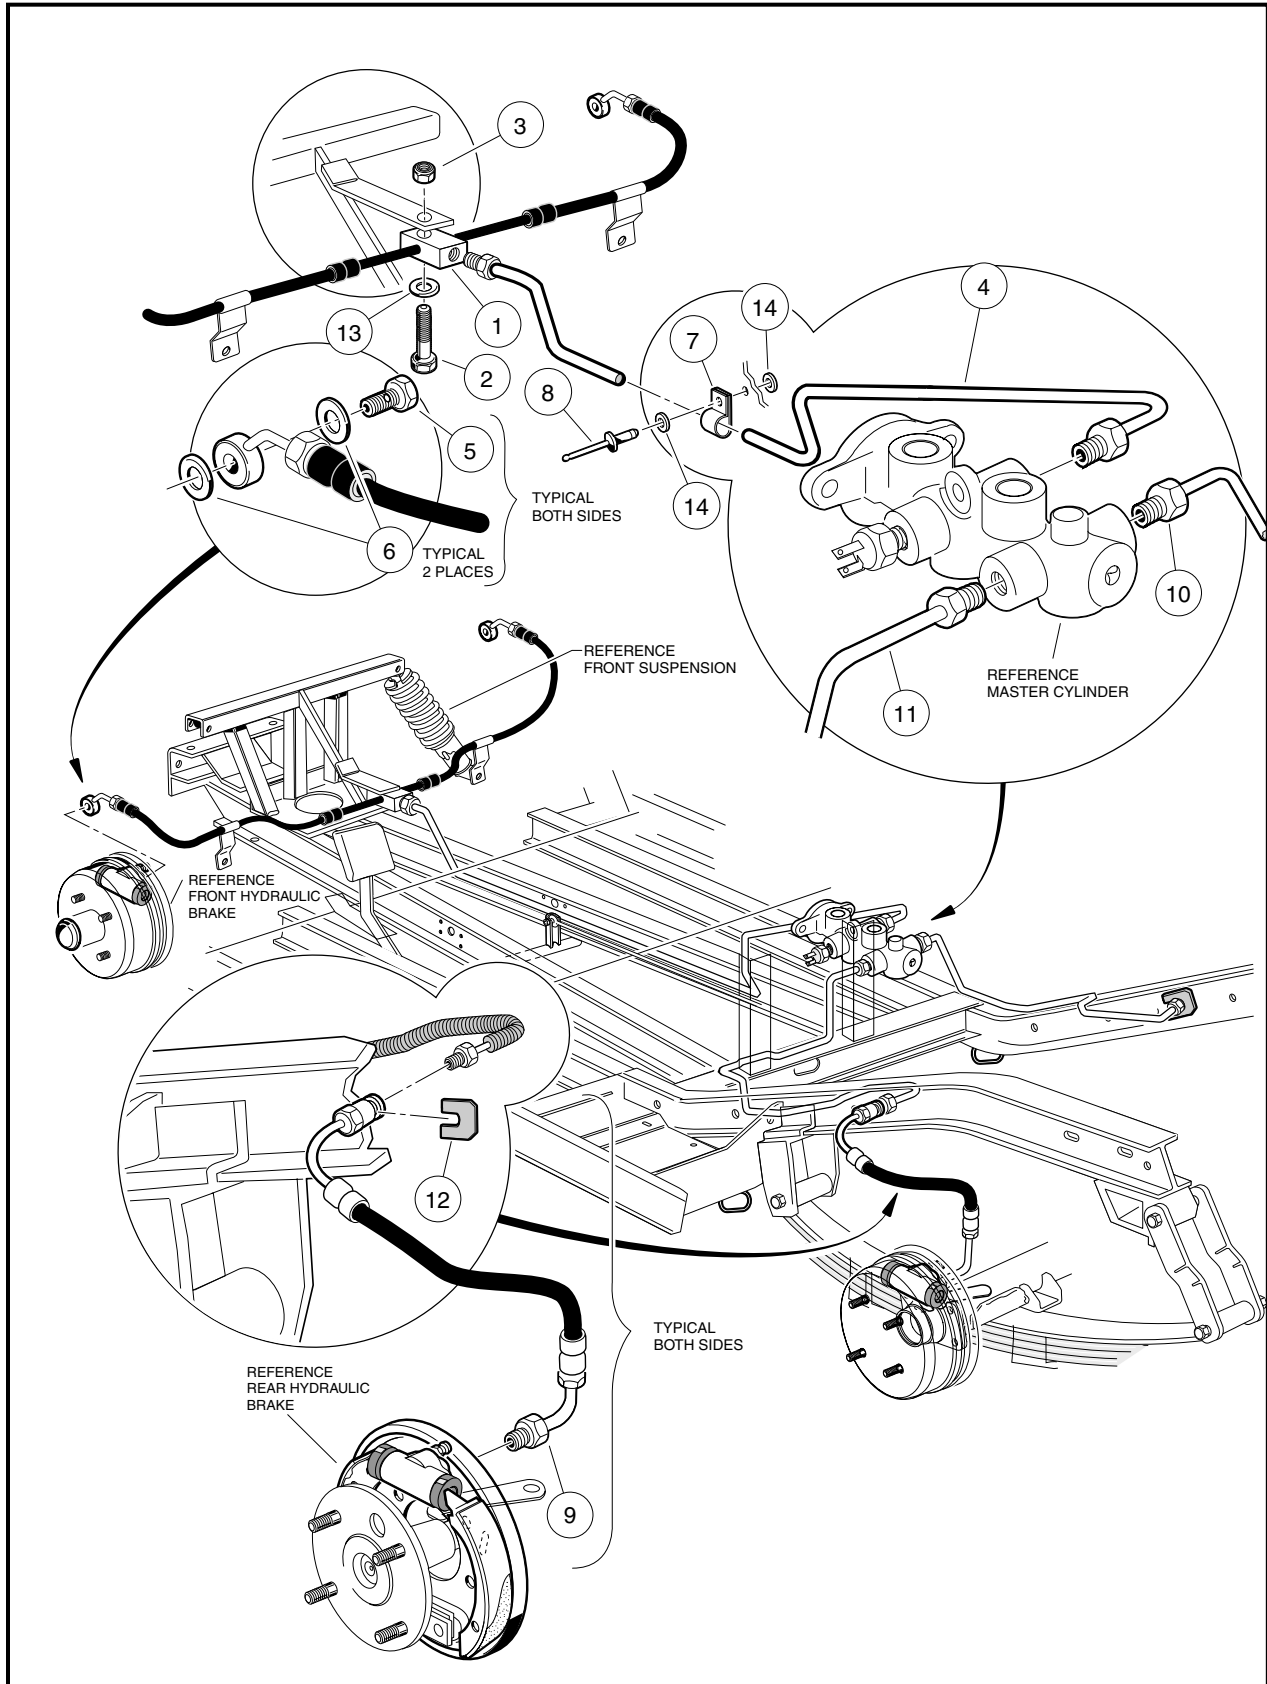

Figure 6b-22 Four-Wheel Hydraulic Brake System
2. Drill the rivet (8) securing the brake line (4) to the vehicle frame (**Figure 6b-22, Page 6b-28**).
4. Using a 7/16-inch flare nut wrench, remove the flare nut of the front brake line (4) from the master cylinder (**Figure 6b-22, Page 6b-28**).
5. Using a 3/8-inch flare nut wrench, remove the opposite end of the brake line (4) from the T-manifold block (1) (**Figure 6b-22, Page 6b-28**).
1. Connect the 7/16-inch flare nut of the brake line (4) to the master cylinder and tighten finger-tight (**Figure 6b-22, Page 6b-28**).
2. Connect the 3/8-inch flare nut of the brake line (4) to the T-manifold block (1) and tighten finger-tight (**Figure 6b-22, Page 6b-28**).
3. Secure the brake line to the vehicle frame with the P-clamp (7), new 3/16 x 3/4-inch aluminum pop rivet (8) and two 3/16-inch rivet washers (14) (**Figure 6b-22, Page 6b-28**).
4. Using a 7/16-inch flare nut wrench, tighten the flare nut from the brake line (4) to the master cylinder to 11 ft-lb (14.9 N·m) (**Figure 6b-22, Page 6b-28**).
5. Using a 3/8-inch flare nut wrench, tighten the flare nut from the brake line (4) to the T-manifold block (1) to 11 ft-lb (14.9 N·m) (**Figure 6b-22, Page 6b-28**).
NOTE: If either of the two front brake hoses or the T-manifold block (1) are found to be damaged, the entire assembly must be replaced (**Figure 6b-22, Page 6b-28**).
3. Remove the banjo bolt (16) and two copper washers (17) from each of the front brake wheel cylinder assemblies (**Figure 6b-3, Page 6b-4**). Discard the copper washers (17).
5. Using a 3/8-inch flare nut wrench, remove the brake line (4) from the T-manifold block (1) (**Figure 6b-22, Page 6b-28**).
6. Remove the bolt (2), washer (13) and lock nut (3) that secure the T-manifold block (1) to the shock tower and remove the front brake hose assembly (**Figure 6b-22, Page 6b-28**).
1. Install the 1/4-20 x 1-1/4-inch hex-head bolt (2) through washer (13) and through the T-manifold block (1) and frame bracket. Install and tighten the nylon lock nut (3) to 76 in-lb (8.6 N·m) (**Figure 6b-22, Page 6b-28**).
2. Connect the brake hose assemblies to each of the front brake wheel cylinders, using new copper washers (17) and banjo bolts (16). Position the elbow of each hose toward the rear of the vehicle. Tighten bolts to 13 ft-lb (17.6 N·m) (**Figure 6b-3, Page 6b-4**).
4. Using a 3/8-inch flare nut wrench, connect the flare fitting on the front brake line (4) to the T-manifold block (1). Tighten to 11 ft-lb (14.9 N·m) (**Figure 6b-22, Page 6b-28**).